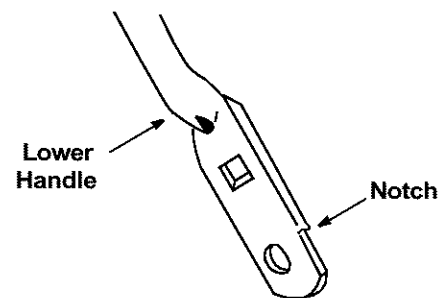

Figure 16
- Turn the lower handle around so the notches on the bottom of the lower handle are facing forward as shown in Figure 16 . Reassemble, placing the bottom holes in the handle over the weld pins in the handle mounting bracket.